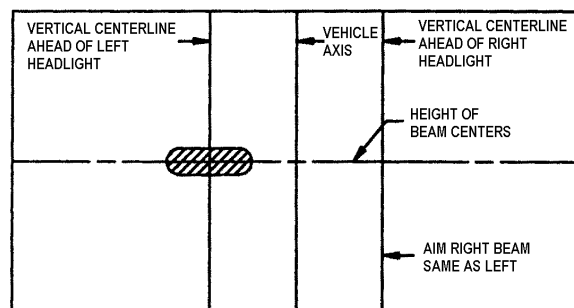

FIGURE 33: UPPER BEAM HIGH-INTENSITY ZONE PROPER LOCATION ON SCREEN 06503
5. High beam headlights are aimed so that the center of the high-intensity zone is located at the horizontal and straight ahead vertically (Fig. 33).